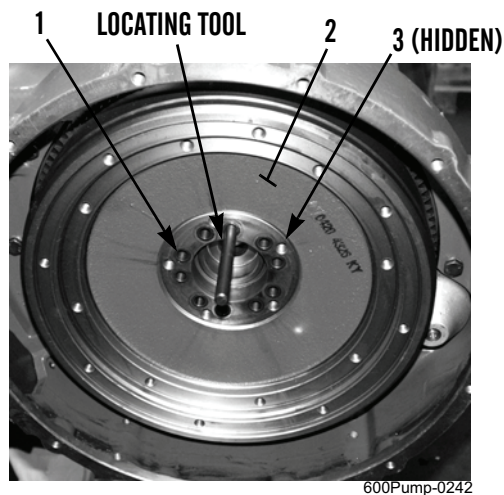

Figure 10. Installing Flywheel.
11. Install locating tool on crankshaft (Figure 10, Item 3).
12. Install flywheel (Figure 10, Item 2) and ten new bolts (Figure 10, Item 1) on crankshaft (Figure 10, Item 3). Tighten bolts to 22 lb-ft (30 Nm). Tighten bolts again to 40 to 44 lb-ft (55 to 60 Nm). Tighten bolts to 55 to 59 lb-ft (75 to 80 Nm).
13. Remove locating tool from crankshaft (Figure 10, Item 3).